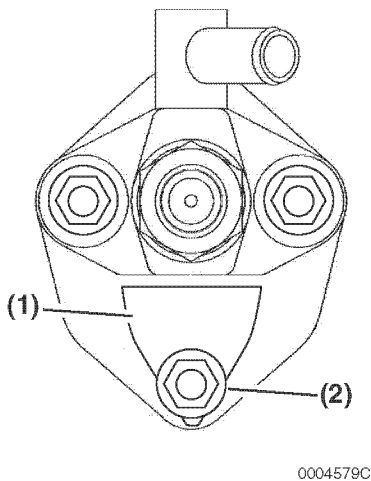
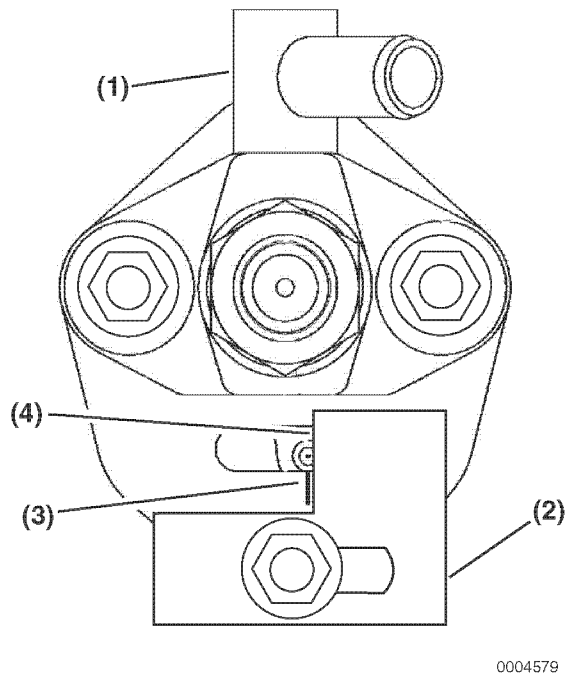

Figure 7-9
Figure 7-10
9. Remove the nut (**Figure 7-9, (2)**) fastening the injection pump inspection window cover plate (**Figure 7-10, (1)**). Remove the inspection cover plate and gasket.
10. Install the fuel adjustment jig (**Figure 7-10, (2)**), Yanmar P/N 114771-92310, in the fuel injection pump inspection window. Using the inspection window cover plate nut, fasten the fuel adjustment jig aligning the upper left edge of the jig (**Figure 7-10, (4)**) to the alignment mark scribed on the face of the fuel injection pump (**Figure 7-10, (1)**) base plate (**Figure 7-10, (3)**).
Note: Be sure to keep the fuel adjustment jig parallel to the inspection window opening. (**Figure 7-10** shows the alignment mark for clarity only. The edge of the jig should be directly on the mark when installed properly.)